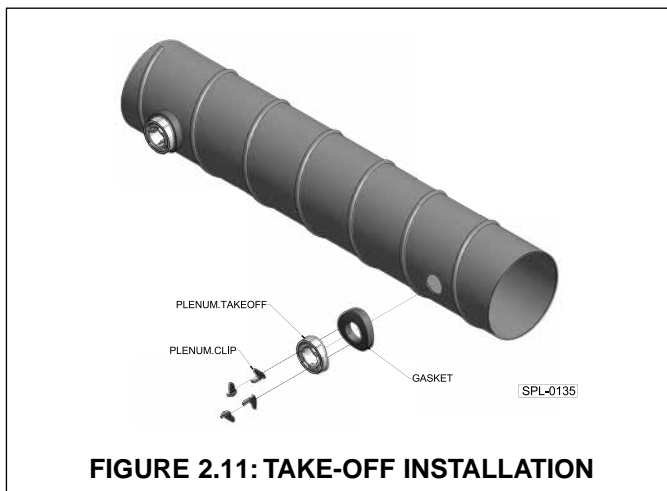

FIGURE 2.11: TAKE-OFF INSTALLATION
Seat take-off in hole so the curvature matches that of the duct (see Figure 2.11 - duct shown without insulation and jacket). Insert (1) plenum clip (green) into a slot opening, then slide down. Apply enough pressure to take-off so clip grabs inside of duct. Repeat the procedure with another clip opposite the first (180°). Using SpacePak pliers secure both clips so they "click" flush with interior of duct. Complete by inserting (2) more plenum clips in remaining slots and install as above.